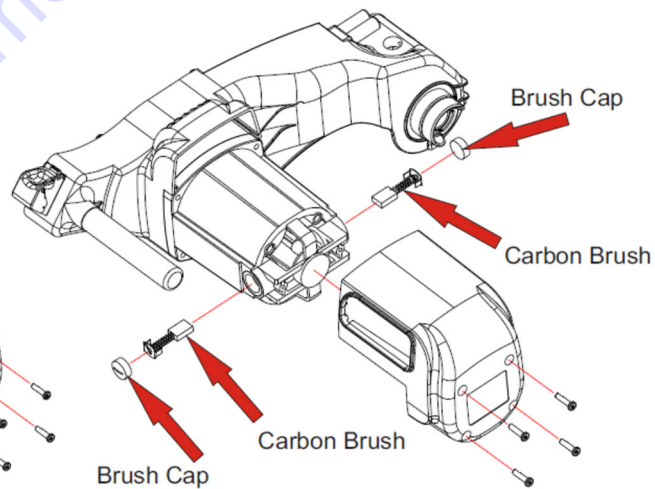

Figure 4-2: Carbon Brush Removal
5. Use a coin or wide blade screwdriver to remove the Carbon Brush Cap. Use care not to damage the Carbon Brush Cap. Inspect the Cap for damage. If the Cap has any signs of damage replace (see Figure 4-2 **Carbon Brush Removal**)